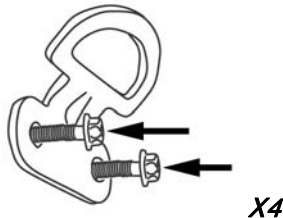

Figure 7
- 6) Install the tie-down hooks. (See Figure 7). The tightness range for the tie-down bolts is 11 to 16 N-m (8 to 12 ft-lb.).